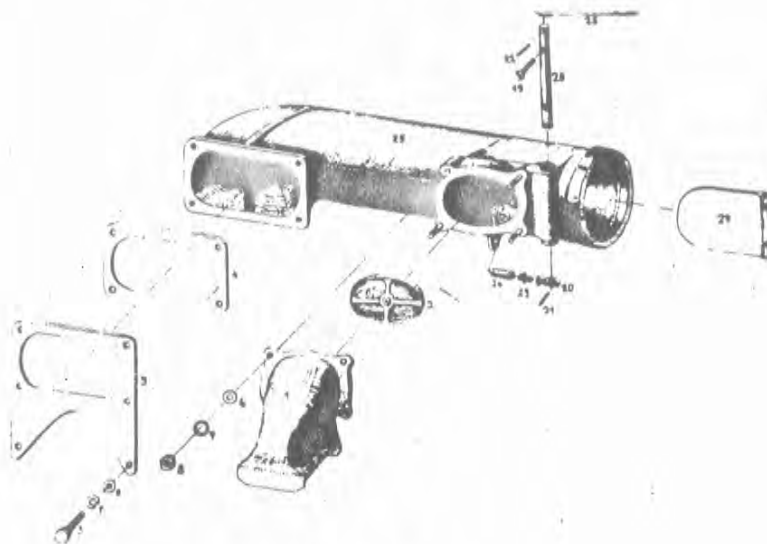

Fig. 7.
- Fig. 7 - Air Scoop and Flame-Trap